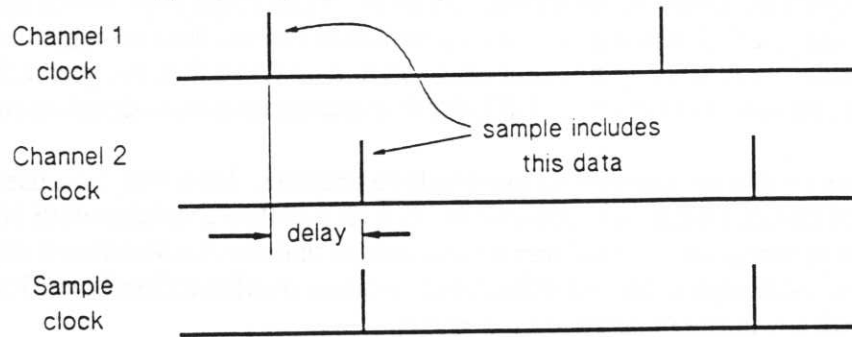
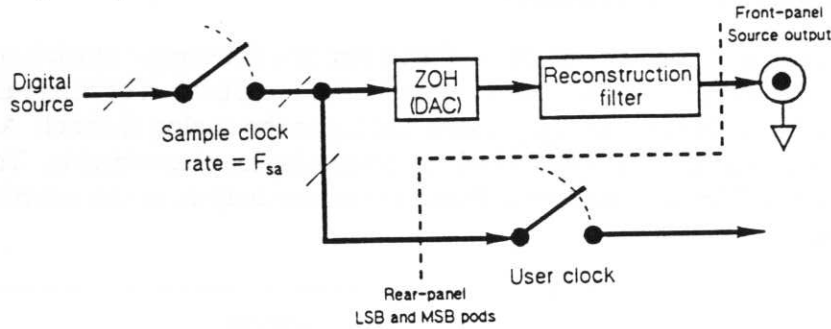

Figure 14-4. Last Channel Clock is Sample Clock
**Figure 14-8. Model of a Digital Input Channel**
**Example:** Consider a microprocessor running a digital filter program. It reads an input sample, then calculates and writes the next output sample. See the timing diagram in figure 14-4. In this example Channel 1 data is from the microprocessor input, Channel 2 data is its output, and the Channel 2 clock has been selected as the sample clock. The delay in the Channel 1 data occurs because the data latched with the Channel 1 clock is not moved into the measurement channel until the next sample clock occurs. See figure 13-19 on page 13-19. This is a partial-sample delay introduced in the Channel 1 data. This delay exactly cancels the microprocessor computational delay (delay between the channel clocks).
The digital input can be modeled as a sampled system with two delay elements and two samplers as shown in figure 14-8. The left delay block models the time delay between the data clock (data latched into the analyzer) and the next sample clock. See the timing diagram in figure 17-2. The right delay block is used to model the delay (or advance) introduced when a value is entered using the COMPUT DELAY? softkey. A positive value introduces a linear phase ramp with a negative slope in the specified channel's linear spectrum data. See figures 14-4 and 14-5 on page 14-7.